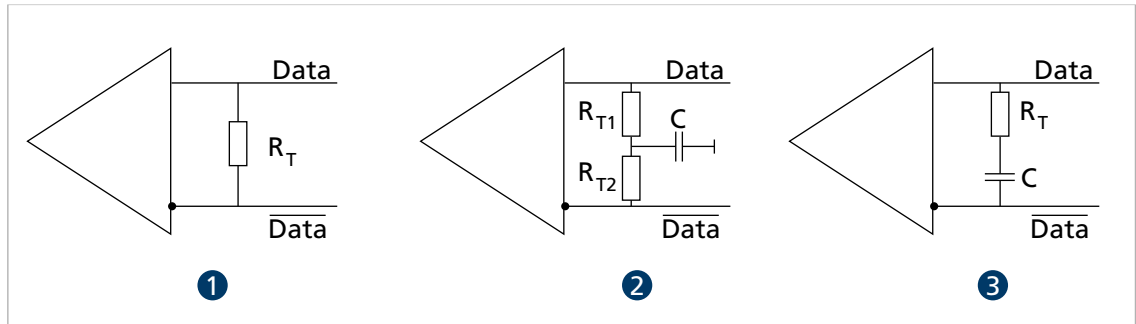

Fig. 7: Termination types
- ▶ Use a terminating resistor between data and $\overline{\text{data}}$ starting at a cable length of 1 m. For the termination options of signals data and $\overline{\text{data}}$ see Fig. 7